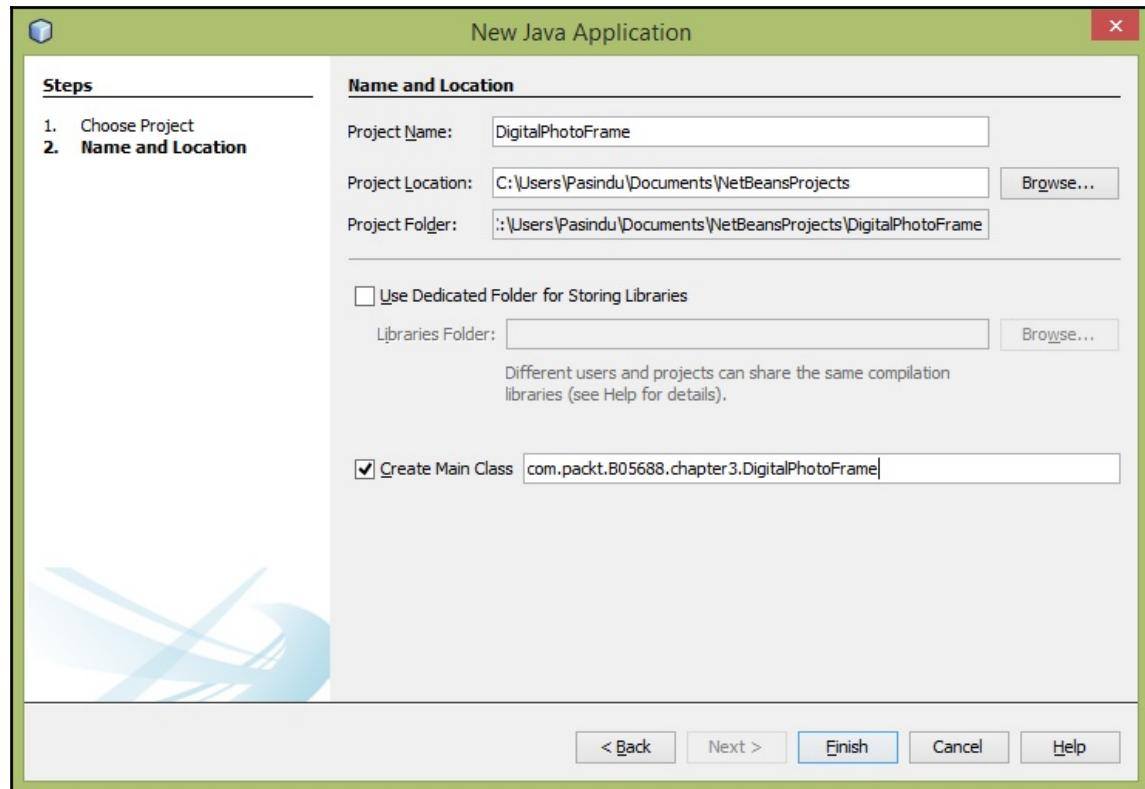

Figure 3-18: Name and Location
2. In the **Project Name** text box, type `DigitalPhotoFrame`, and in the **Create Main Class** text box, type `com.packt.B05688.chapter3.DigitalPhotoFrame`. Leave the **Project Location** box as it is to use the default project location in your local computer, or click the **Browse** button to choose a new location. Click the **Finish** button to create the project (Figure 3-18):